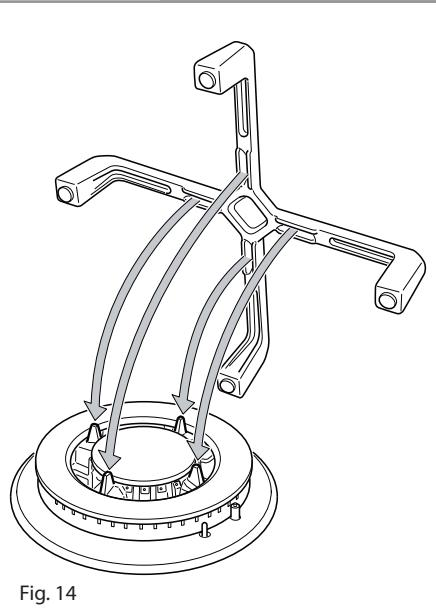

Fig. 14
- The pan support shall be correctly positioned as indicated in fig. 14. The pan support shall be level and must not rotate.